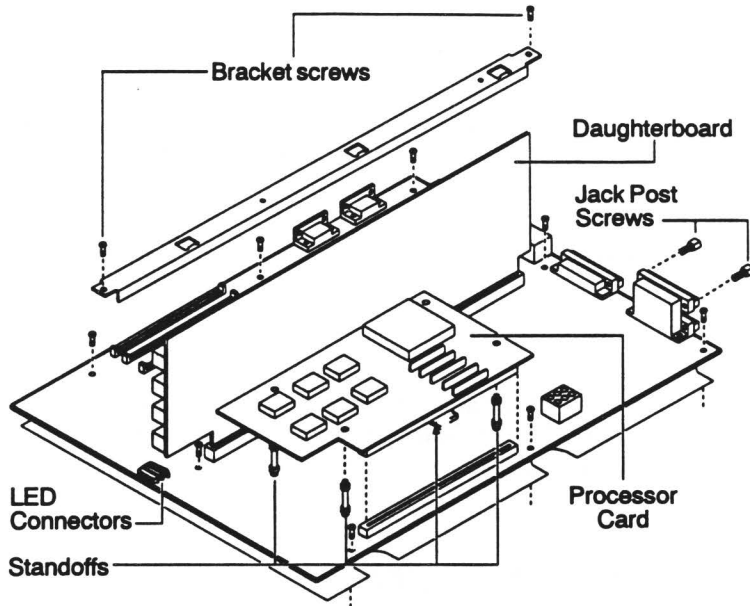

Figure 4-2. Daughterboard Top Bracket
6. Remove the daughterboard bracket. Locate the bracket screws in Figure 4-2. Remove the two screws and detach the daughterboard bracket from the system chassis.
8. Remove the processor board. Locate the standoffs attaching the processor board to the motherboard in Figure 4-2. Use needle nose tweezers to squeeze each standoff as you gently pull the processor board upward to release it from the motherboard. The standoffs will pop back into place when you replace the processor board.
10. Remove the jack post screws. Locate the jack post screws attaching the motherboard to the chassis in Figure 4-2 and remove the two screws.